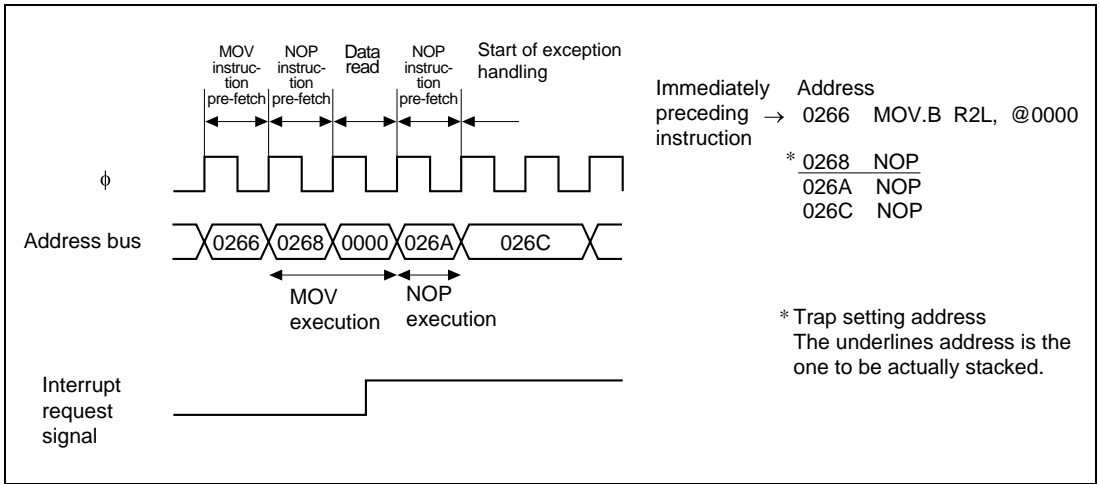

Figure 27.3 Basic Operations (2)
- (2) Figure 27.3 shows the operation when the instruction immediately preceding the trap address is that of 2 states or more of the execution cycle and the next instruction prefetch occurs in the second state from the last. The address to be stacked is 0268.